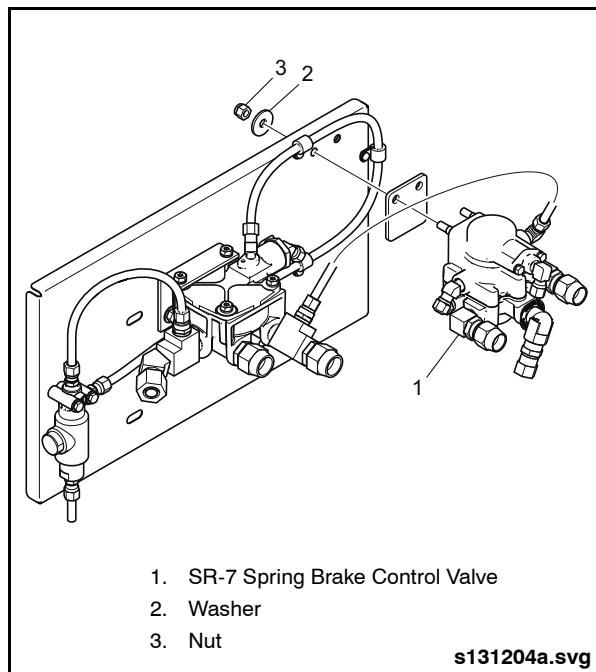

Fig. 8-18: SR-7 Spring Brake Modulating Valve Installation
3. Locate the SBMV on the rear brake valve plate. See "Fig. 8-18: SR-7 Spring Brake Modulating Valve Installation" on page 66.